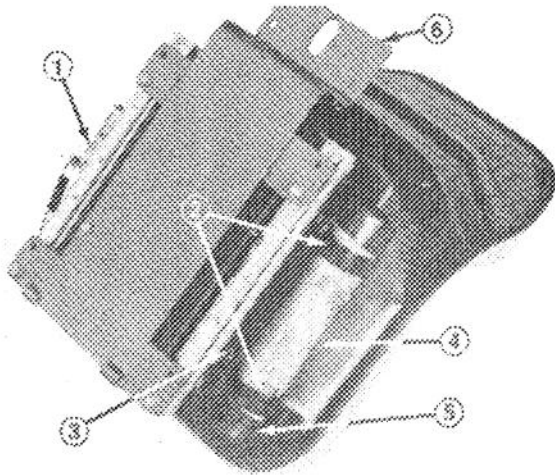

Figure 12
9. Mount seat suspension assembly to (4) capscrews on seat bottom and secure with (4) lockwashers, flatwashers and nuts (Fig. 12).
10. Loosely secure (2) R-clamps to right side of seat bottom with (2) capscrews supplied in kit (Fig. 12). Install manual tube into R-clamps and tighten capscrews (Fig. 12).
11. Mount seat support over four threaded studs at the bottom of seat suspension assembly and secure in place with lockwashers and nuts (Fig. 12).